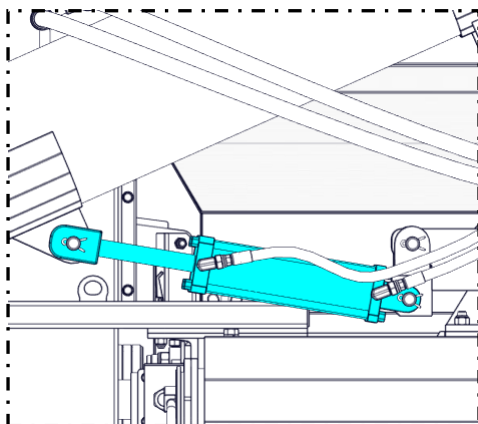

Figure 4.13
- C) Once opened, you can use the hydraulics to lift the auger up until it is cleared to swing into position. The in feed auger can now be lowered into the needed position (Figure 4.13).